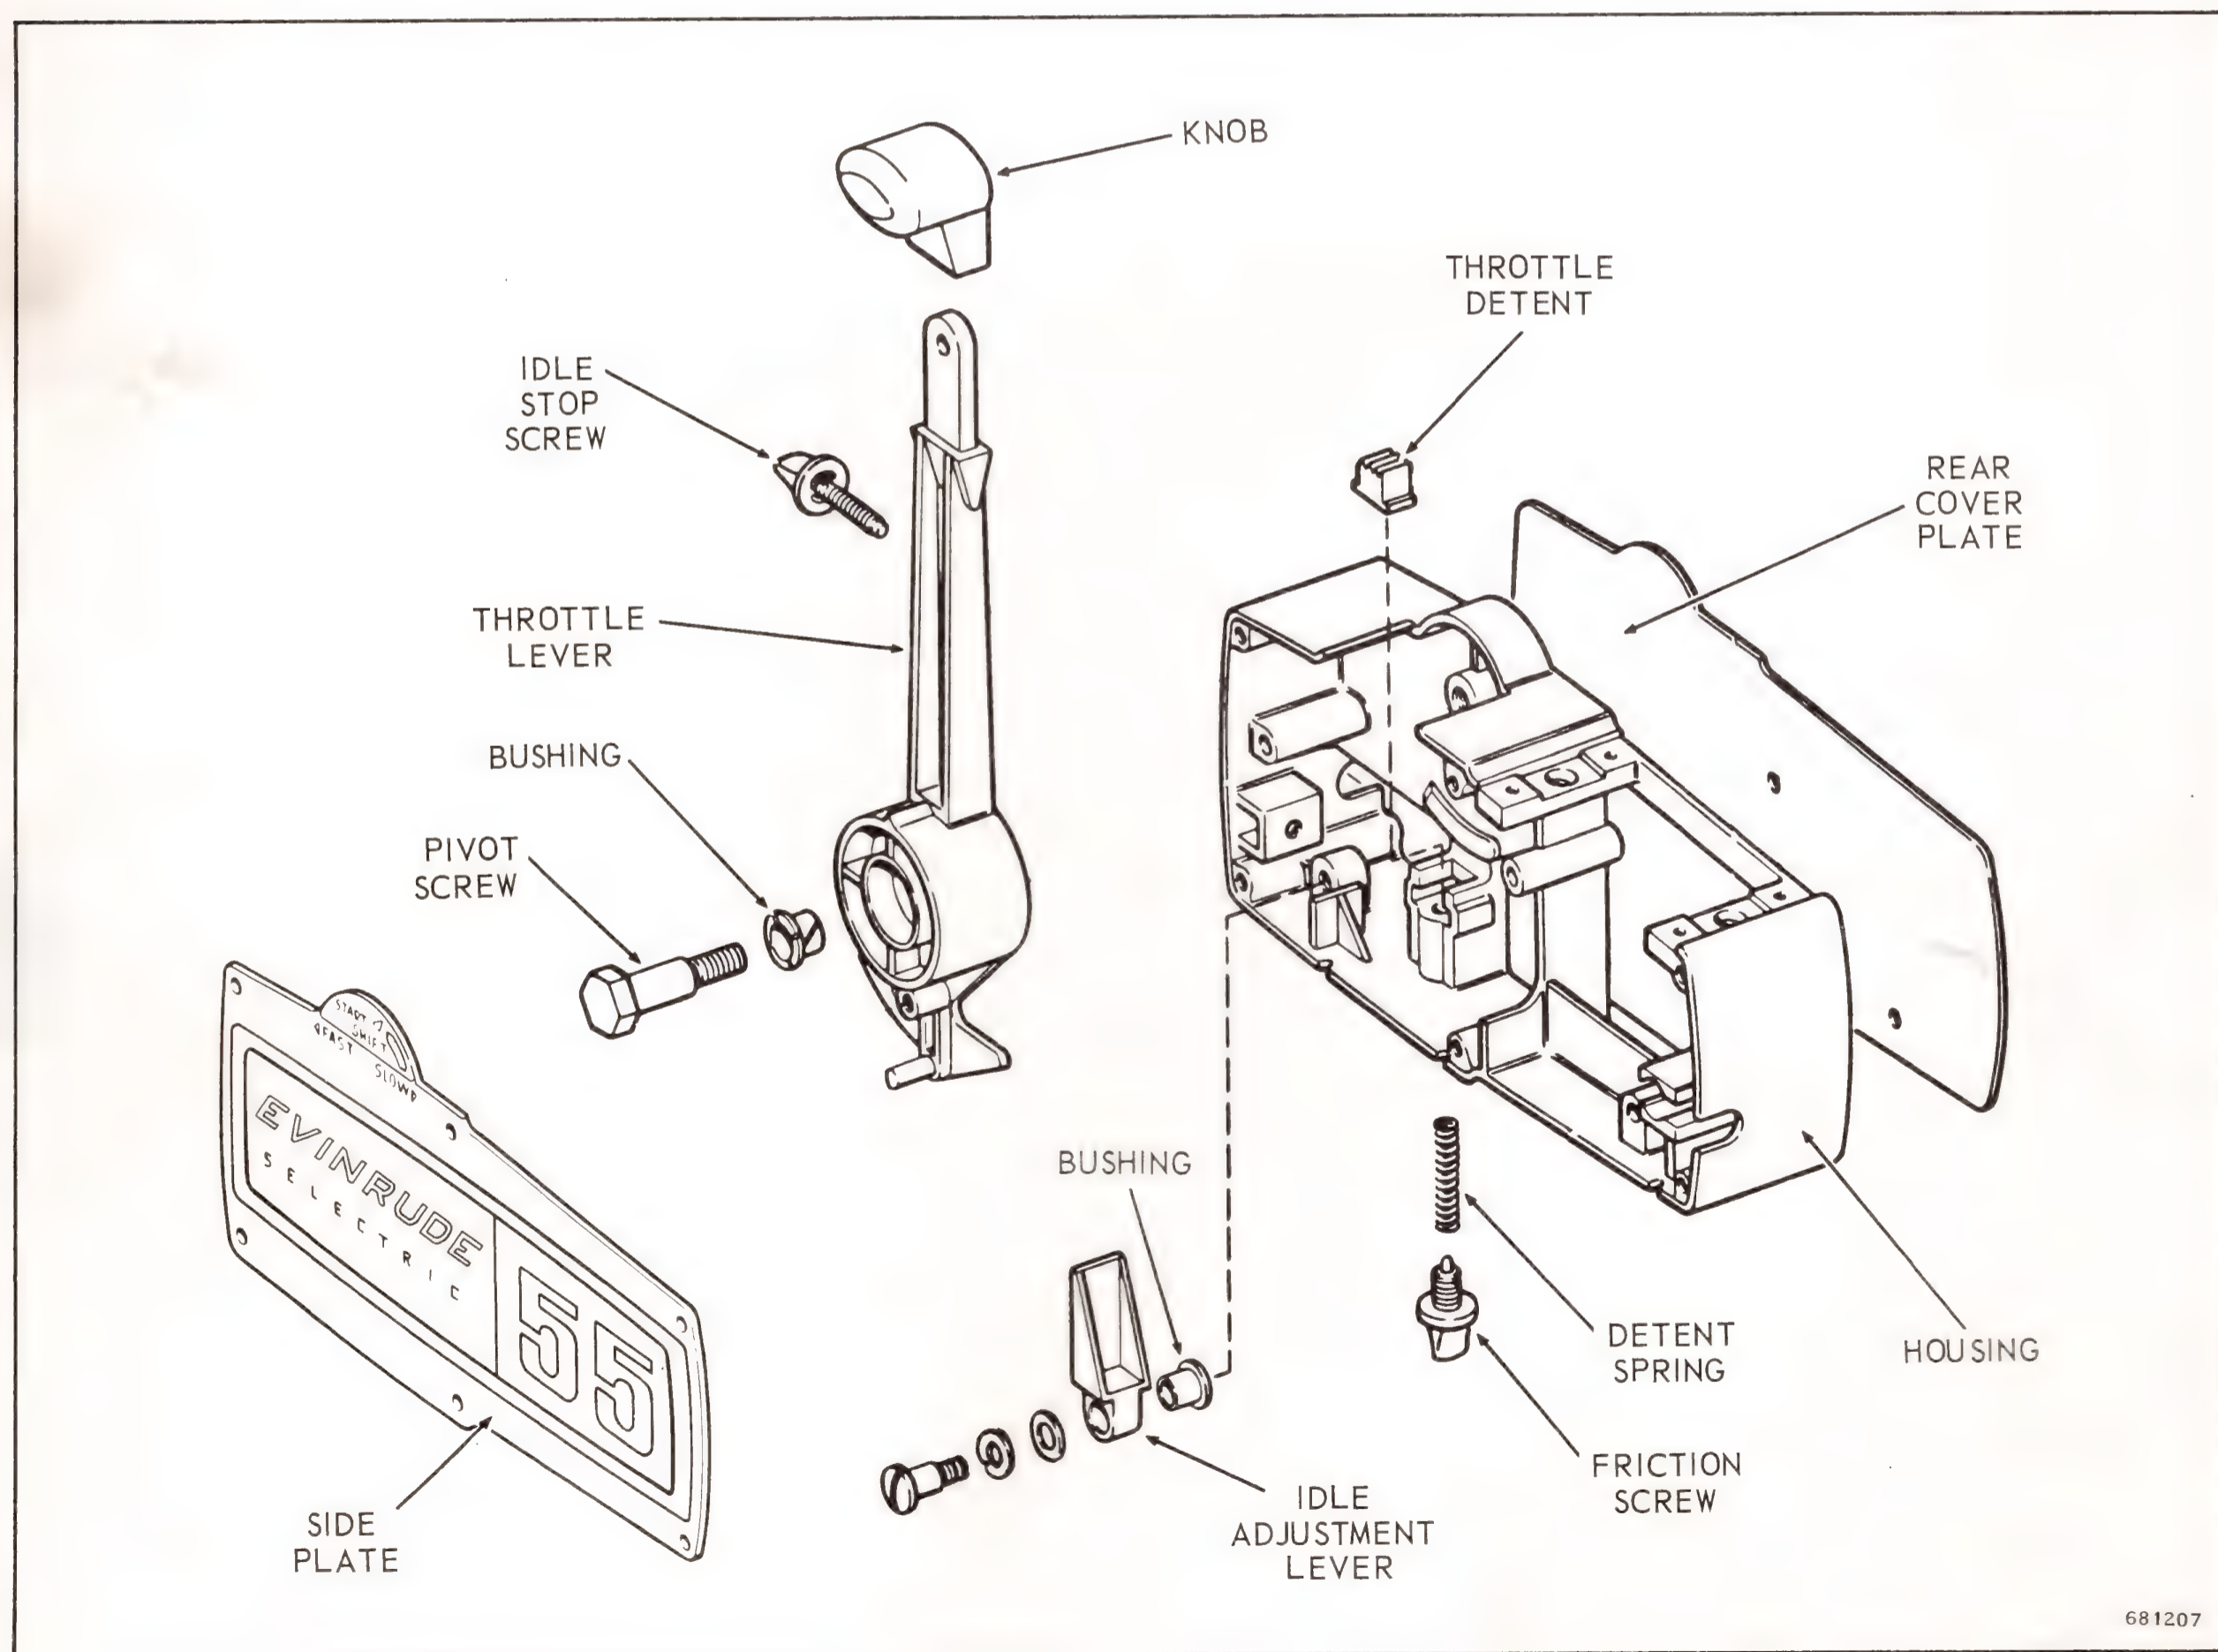

Figure 8-2. Remote Control Assembly View - Housing and Throttle Lever
- b. Remove throttle friction spring and adjusting screw. See Figure 8-2.
- e. Remove throttle lever pivot screw. Lift throttle lever from housing. See Figure 8-2.